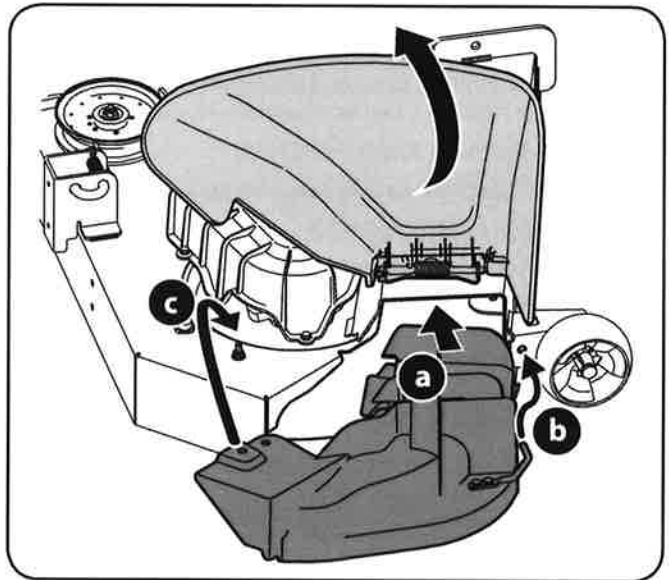
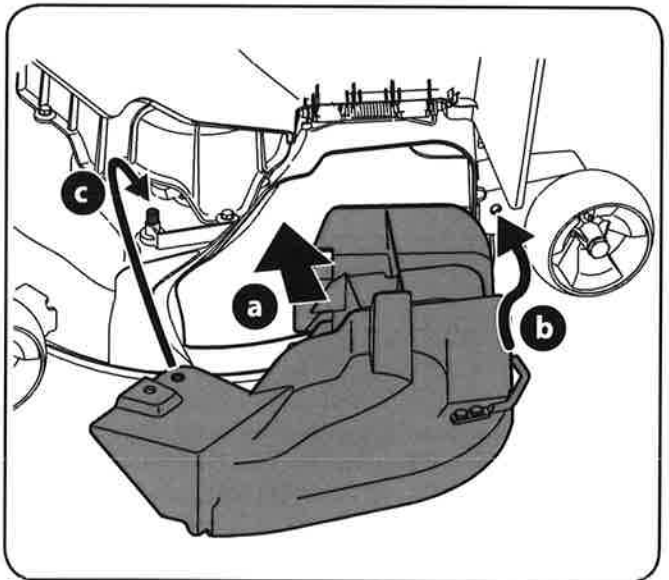

Figure 1-5
Figure 1-6
3. To install the mulch plug, pivot the discharge chute upward. Refer to Figure 1-5 (*fabricated decks*) or Figure 1-6 (*stamped decks*):